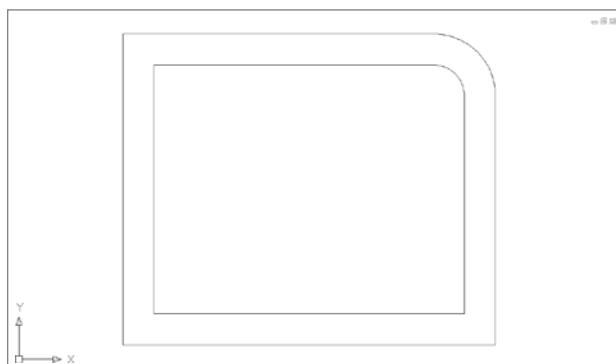

FIGURE 2.27 The box with the curved radii in the upper-right corner
7. Restart the command, set the radius to 1.0, and then fillet the outer upper-right corner. Your box should look like Figure 2.27.